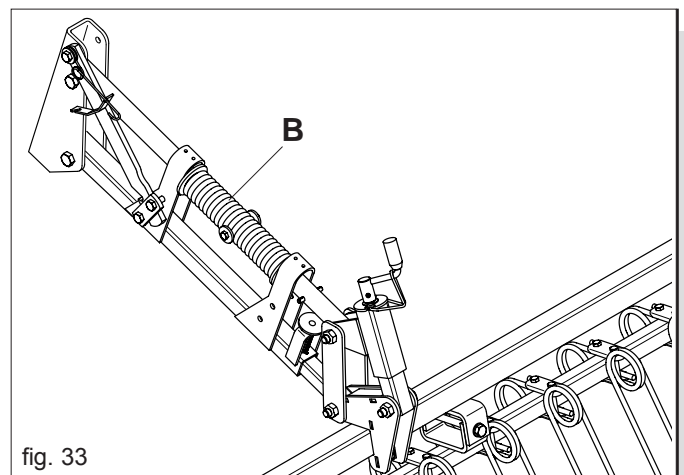

fig. 33
The working pressure of the spring-loaded teeth can be varied by rotating the spring (B) located on the upper parallel arm (Fig. 33).